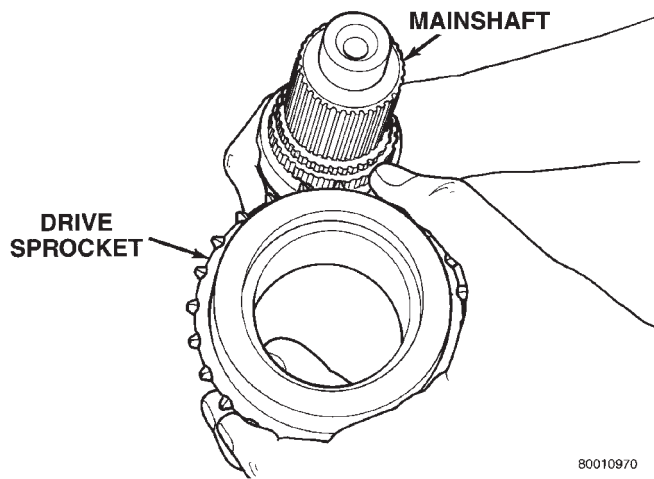

Fig. 30 Drive Sprocket Removal
(3) Slide drive sprocket off mainshaft (Fig. 30).